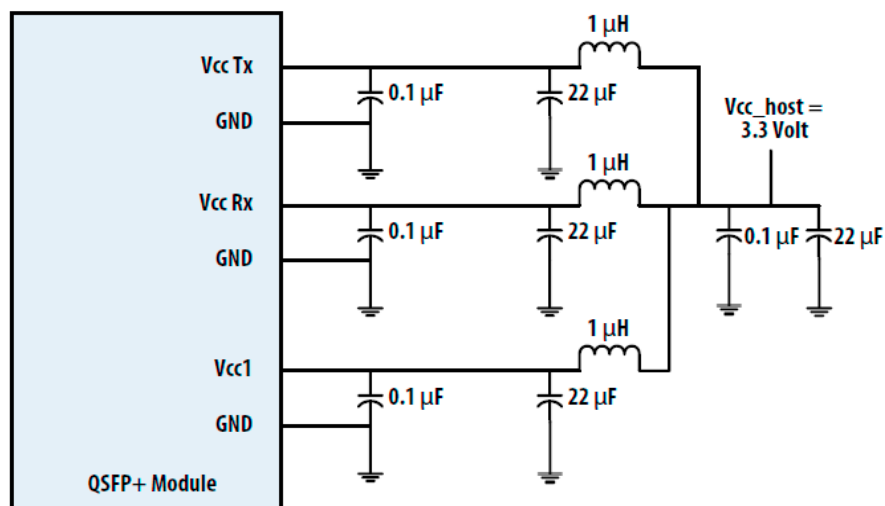

Figure 3. Recommended Power Supply Filter
2. VccRx, Vcc1 and VccTx are the receiving and transmission power suppliers and shall be applied concurrently. Recommended host board power supply filtering is shown in Figure 3 below. Vcc Rx, Vcc1 and Vcc Tx may be internally connected within the QSFP+ transceiver module in any combination. The connector pins are each rated for a maximum current of 500 mA.